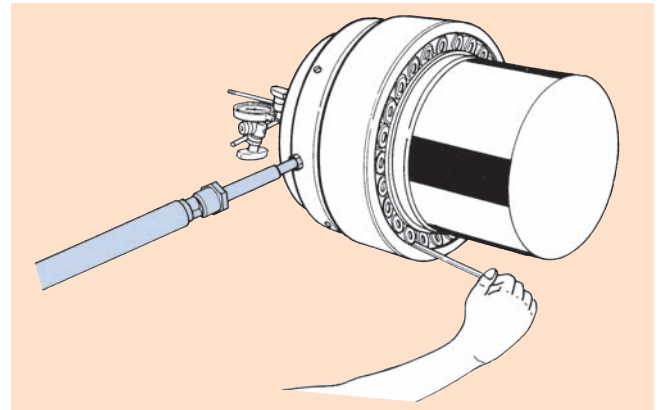

Fig. 32
- (4) Measure the bearing radial internal clearance with a thickness gauge, and increase the hydraulic pump pressure until reaching the specified mounted clearance (see Fig. 32).